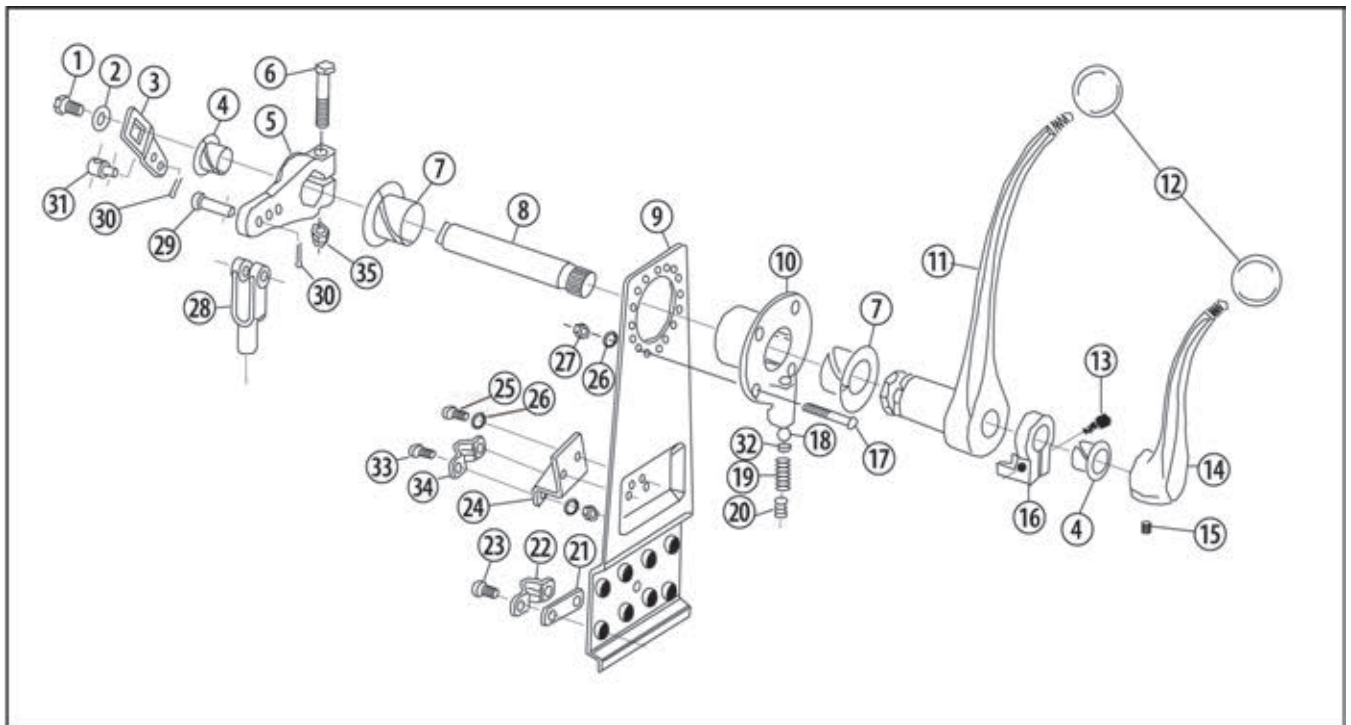

Figure 3.
**STEP 4.** Remove the screw (Item #1), lockwasher (Item #2), throttle arm (Item #3), bolt (Item #6), nut (Item #35), clutch arm (Item #5) and nylon bearing (Item #7) from the control head. See exploded view (Figure 3) for location of parts.
**STEP 1.** Mount the throttle cable mounting bracket (Item #24) to the hanger plate using the screws (Item #25) and lockwashers (Item #26) provided. Refer to exploded view (Figure 3) to determine which holes to use in regard to whether the cable is push-to-open or pull-to-open.